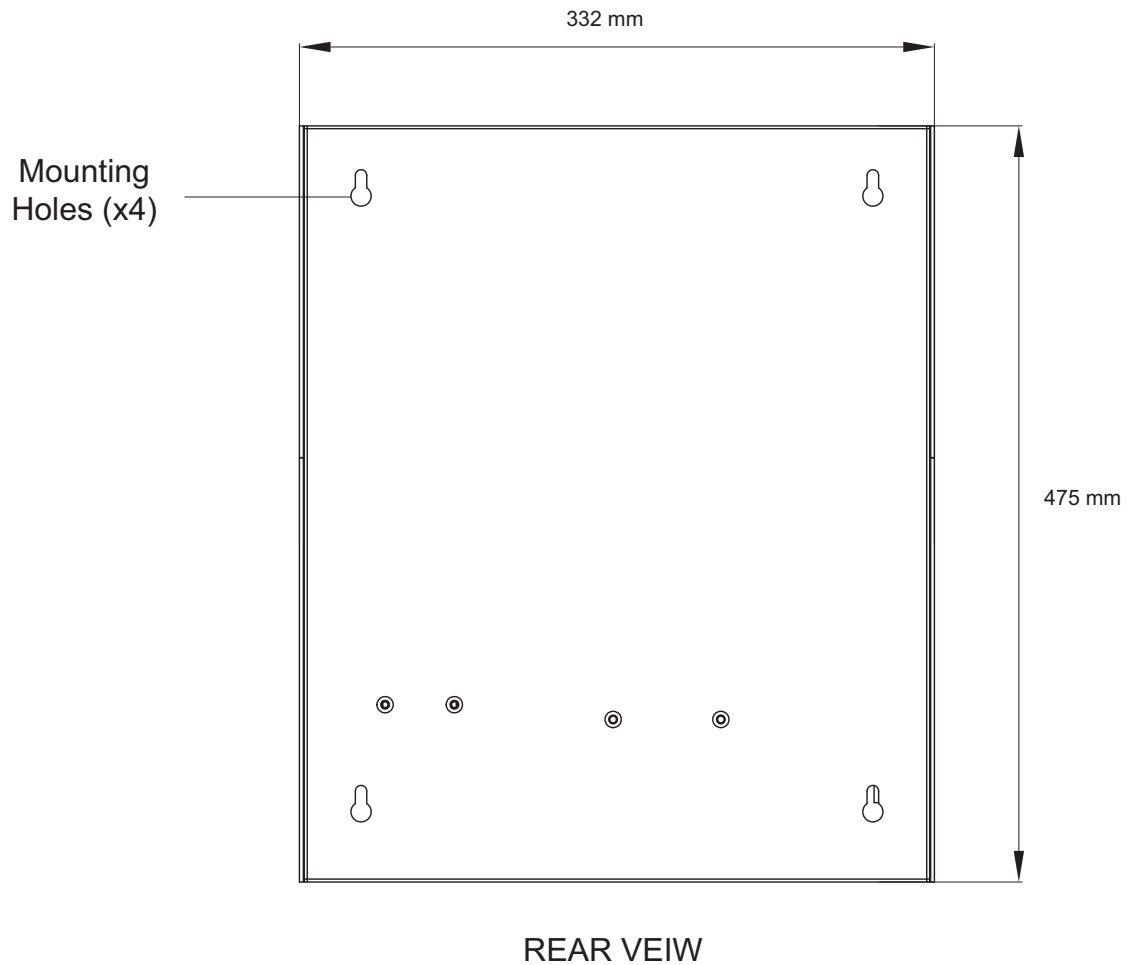

Figure 3: Relayrack Dimensions
Step 2. Measure back of unit for mounting dimensions using supplied mounting holes as illustrated in **Figure 3**.